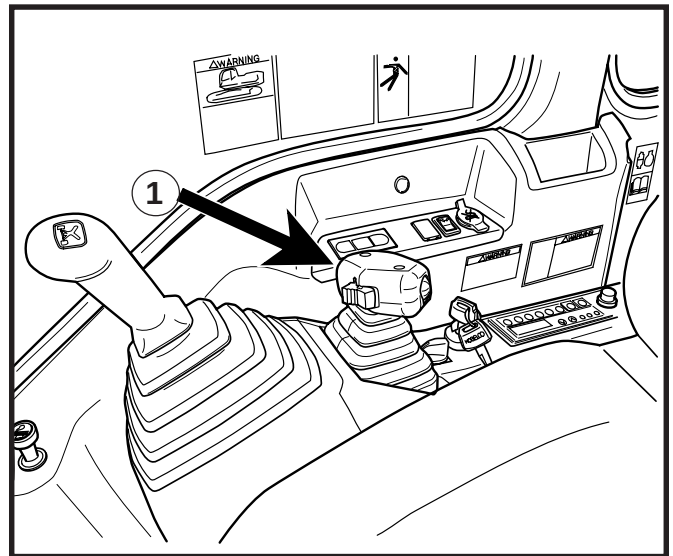

FIGURE 20.a
The dozer control lever (1) is located on the operator's right side console, See Fig. 20.a.
To operate the dozer, it is necessary to activate the dozer circuit by pressing the Dozer Switch located on the operator's left side console, See Fig. 20.b
The dozer control lever is multifunctional, See Fig. 20.c